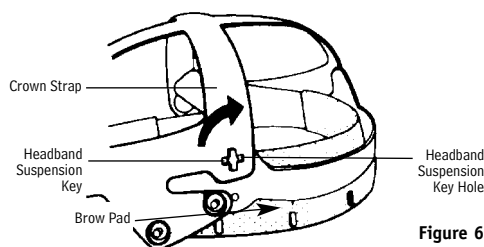

Figure 6
2. Rotate crown strap 90° until key dislodges from keyhole (see Figure 6).